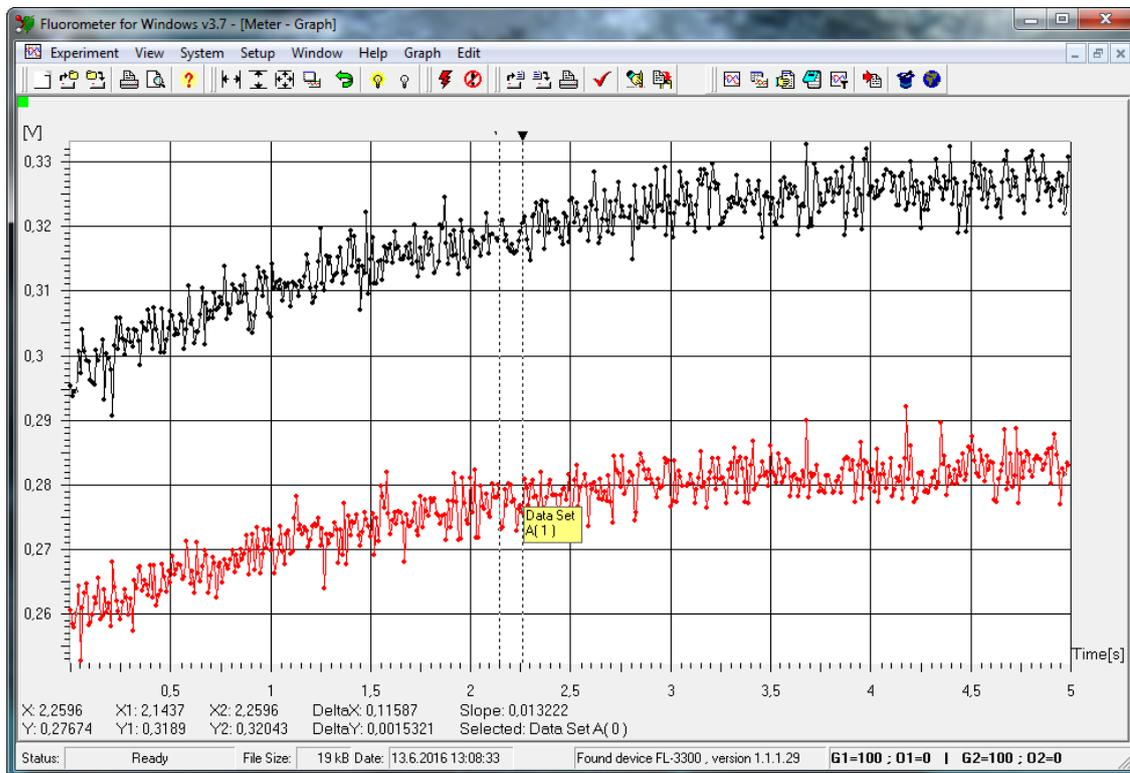

Fig. 41 Graph cursors.
- There are two  **cursors in the graph**. Their position X difference, Y difference and Slope are displayed below the graph. Required DataSet curve for cursor positions can be selected by icon Select Signal (Fig. 41) or left mouse button/ single click on the yellow rectangle with the name of the data set.